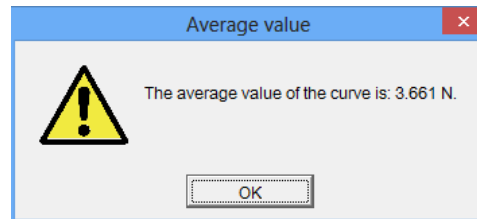

Figure 5.15: Average value dialogue box.
- 9- Use the “Mark” tool (+) to select three or four periods from the graph then press the “Show average value” tool (⏏), the average value of the force during these selected periods will appear in a dialogue box as shown in Figure 5.15.